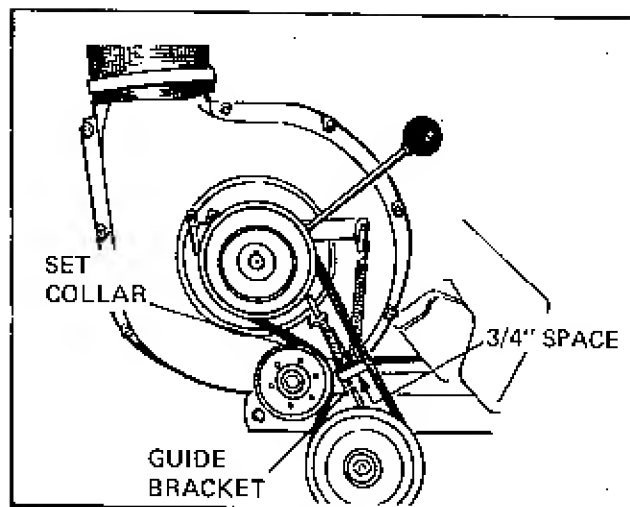
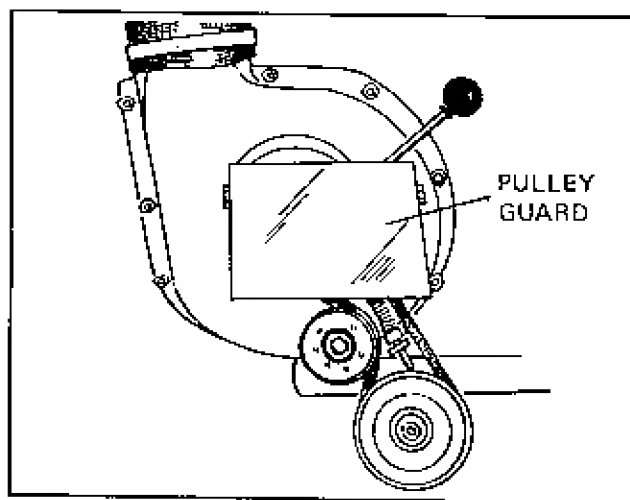

FIGURE 6
FIGURE 7
10. Remove the pulley guard on the upper right side of the blower assembly and position the blower drive belt over the pulleys as shown (Figure 6). Adjust the belt tension as required. A space of approximately 3/4" should be between the set collar and guide bracket when engaged (Figure 6). Replace the pulley guard (Figure 7).